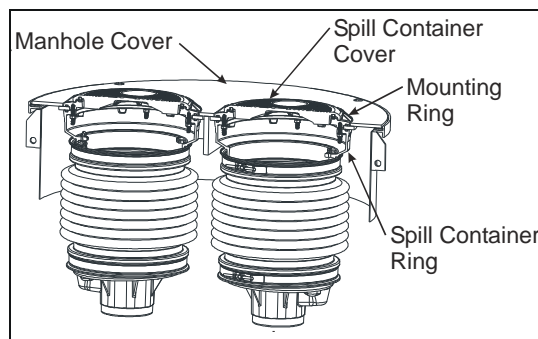

Figure 4
12. Remove Spill Container Cover(s) and Spill Container Mounting ring(s) from Manhole Cover. (See Figure 4)